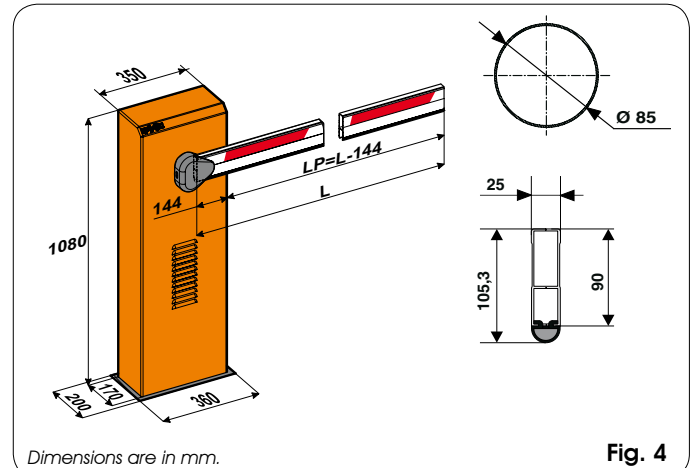

Fig. 4
Upright dimensions LxHxP (mm)	see Fig. 4 and 5
- 2) Make a foundation plinth as shown in fig.4 ref.② (referred to clayey soil)